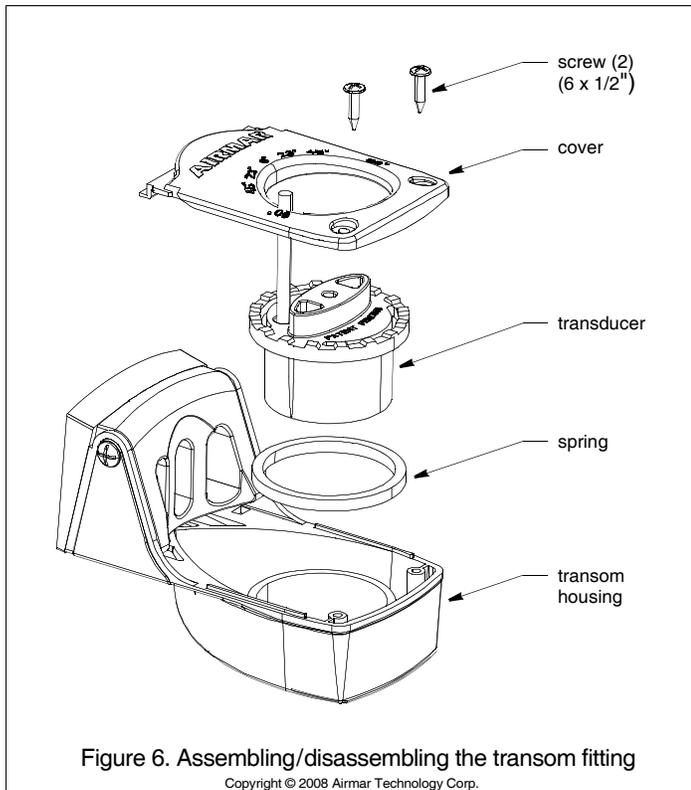

Figure 6. Assembling/disassembling the transom fitting
1. Remove the transducer from the transom fitting by first removing the two screws and the cover (see Figure 6). Lift out the transducer and the spring.
1. Slide the cover over the cable onto the transducer (see Figure 6).